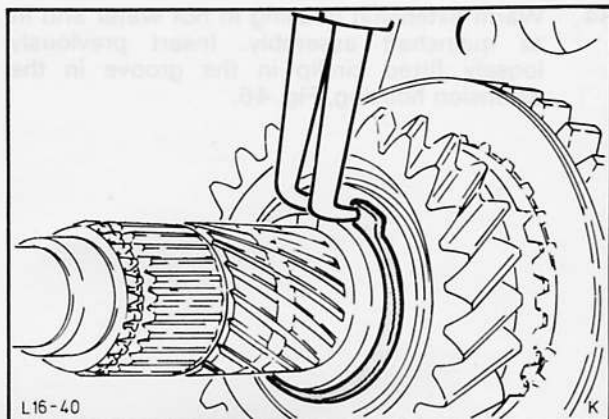

Fig. 43. 2nd gear with thrust washer and circlip fitted
31. Slide 2nd gear with synchroniser ring and thrust washer onto mainshaft, fit circlip, Fig. 43.